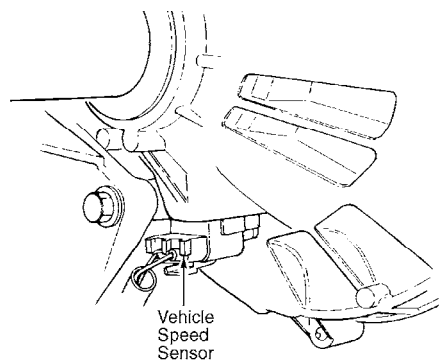

Fig. 6: Disconnecting Vehicle Speed Sensor Connector
2) Turn ignition off. Raise and support vehicle. Disconnect vehicle speed sensor connector at transmission. See Fig. 6. Connect an ohmmeter between sensor terminals. If resistance is 1700-1940 ohms, go to next step and check vehicle speed sensor ground connection. If resistance is not 1700-1940 ohms, replace vehicle speed sensor.
2) Turn ignition off. Raise vehicle and disconnect vehicle speed sensor connector from transmission. See Fig. 6. Connect ohmmeter between sensor connector terminal No. 2 (Green/Yellow wire) and ground. If ohmmeter does not indicate zero ohms, go to next step. If ohmmeter indicates zero ohms, check vehicle speed sensor mounting. If sensor is mounted incorrectly, distance to toothed wheel may be too far. If sensor mounting is okay, go to step 4).
4) Turn ignition off. Raise and support vehicle. Disconnect vehicle speed sensor connector at transmission. See Fig. 6. Connect an ohmmeter between sensor terminals. If resistance is 1700-1940 ohms, replace instrument cluster. If resistance is not 1700-1940 ohms, replace vehicle speed sensor.